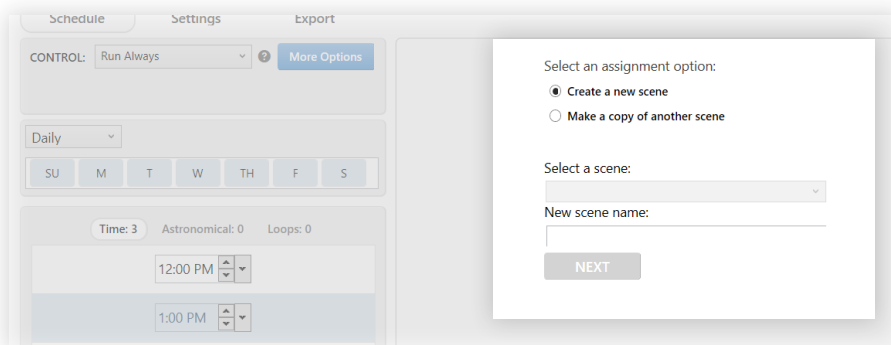

fig. 100
- 2 Create a new scene, or copy from a previous scene. See fig. 100.